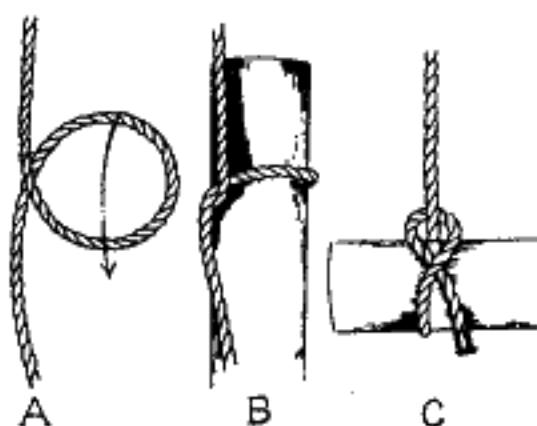

FIG. 338.—The half hitch.
**399. The half hitch** is generally used in connection with other knots and hitches. A half hitch ready to be put over an object such as the end of a post is shown at *A* (Fig. 338). A half hitch in the end of a rope is shown at *C* (Fig. 338).